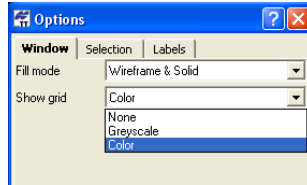

Figure 4-33. Hide/Display a Grid in 3D View
- To hide or display the grid in 3D View, right-click on the mouse, select *Option* in the pop-up menu and choose the desired type from the drop-down list of the *Show Grid* field on the *Window* tab (Figure 4-33).